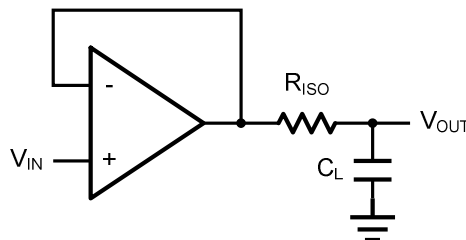
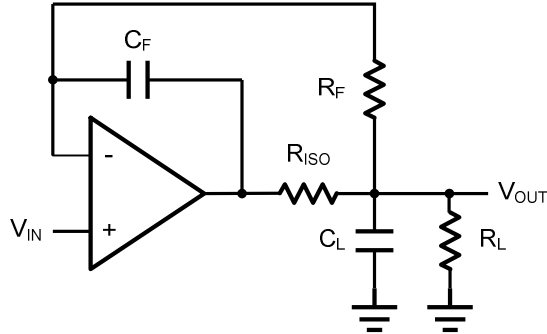

Figure 2. Indirectly Driving a Capacitive Load Using Isolation Resistor
Figure 3. Indirectly Driving a Capacitive Load with DC Accuracy
The LMV321 family is optimized for bandwidth and speed, not for driving capacitive loads. Output capacitance will create a pole in the amplifier's feedback path, leading to excessive peaking and potential oscillation. If dealing with load capacitance is a requirement of the application, the two strategies to consider are (1) using a small resistor in series with the amplifier's output and the load capacitance and (2) reducing the bandwidth of the amplifier's feedback loop by increasing the overall noise gain. Figure 2. shows a unity gain follower using the series resistor strategy. The resistor isolates the output from the capacitance and, more importantly, creates a zero in the feedback path that compensates for the pole created by the output capacitance.
The circuit in Figure 3 is an improvement to the one in Figure 2. R_{F} provides the DC accuracy by feed-forward the V_{IN} to R_{L} . C_{F}